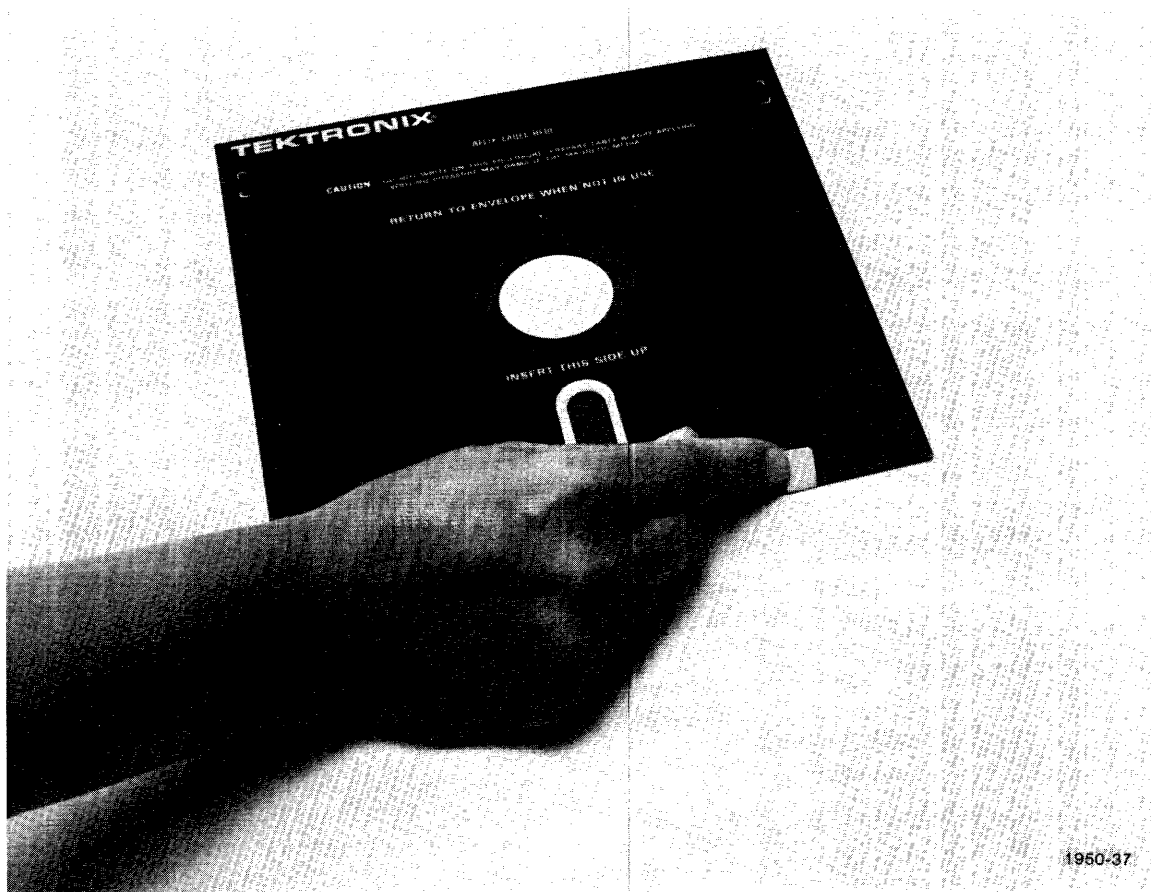

Figure 4-1. Covering the write-protect hole with tape.
4. Load the drive with a formatted disc. Be sure the tape supplied with the disc is covering the write-protect hole (Figure 4-1).